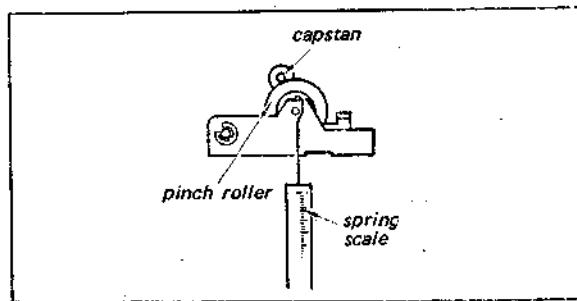

Fig. 3-7. Pinch roller pressure check
- 1) In the FWD mode, attach a spring scale to the pinch roller as shown in Fig. 3-7.